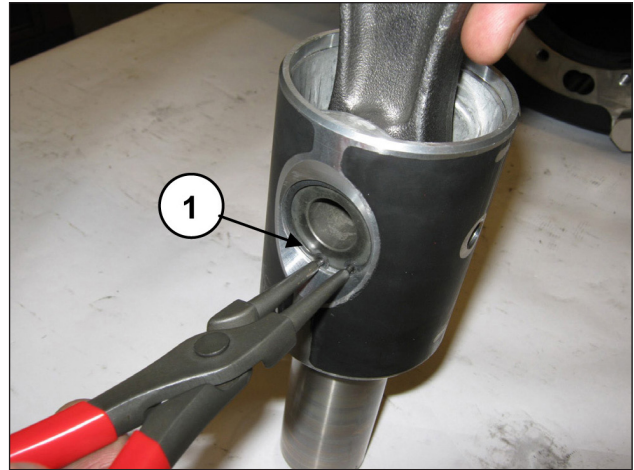
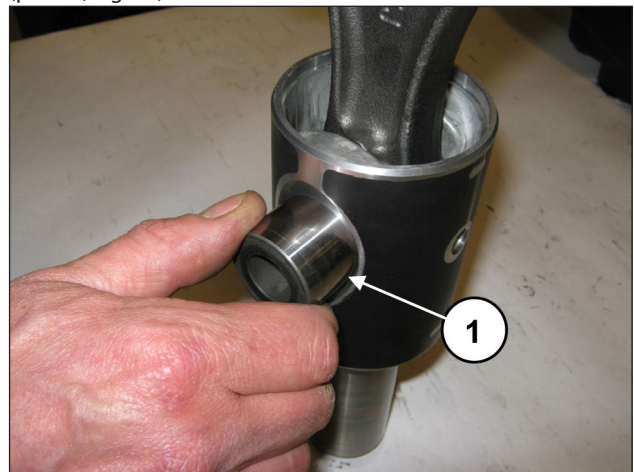
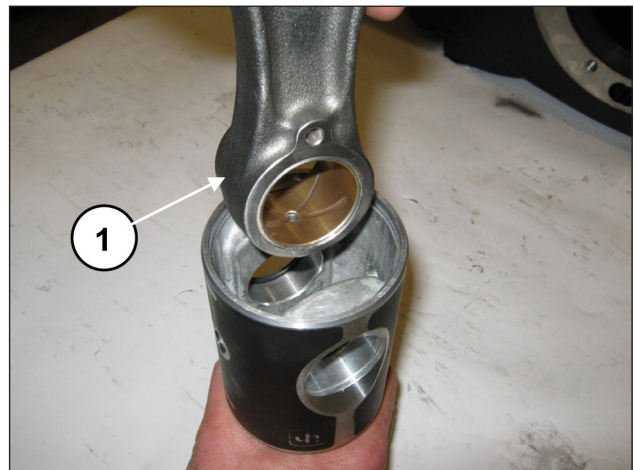

Fig. 37
Fig. 38
Fig. 39
Remove the two spindle locking Seeger rings (pos. ①, Fig. 37).
Remove the spindle (pos. ①, Fig. 38) and extract the con-rod (pos. ①, Fig. 39).
Insert the con-rod in the piston guide (pos. ①, Fig. 39) and then insert the spindle (pos. ①, Fig. 38). Apply the two shoulder Seeger rings (pos. ①, Fig. 37).